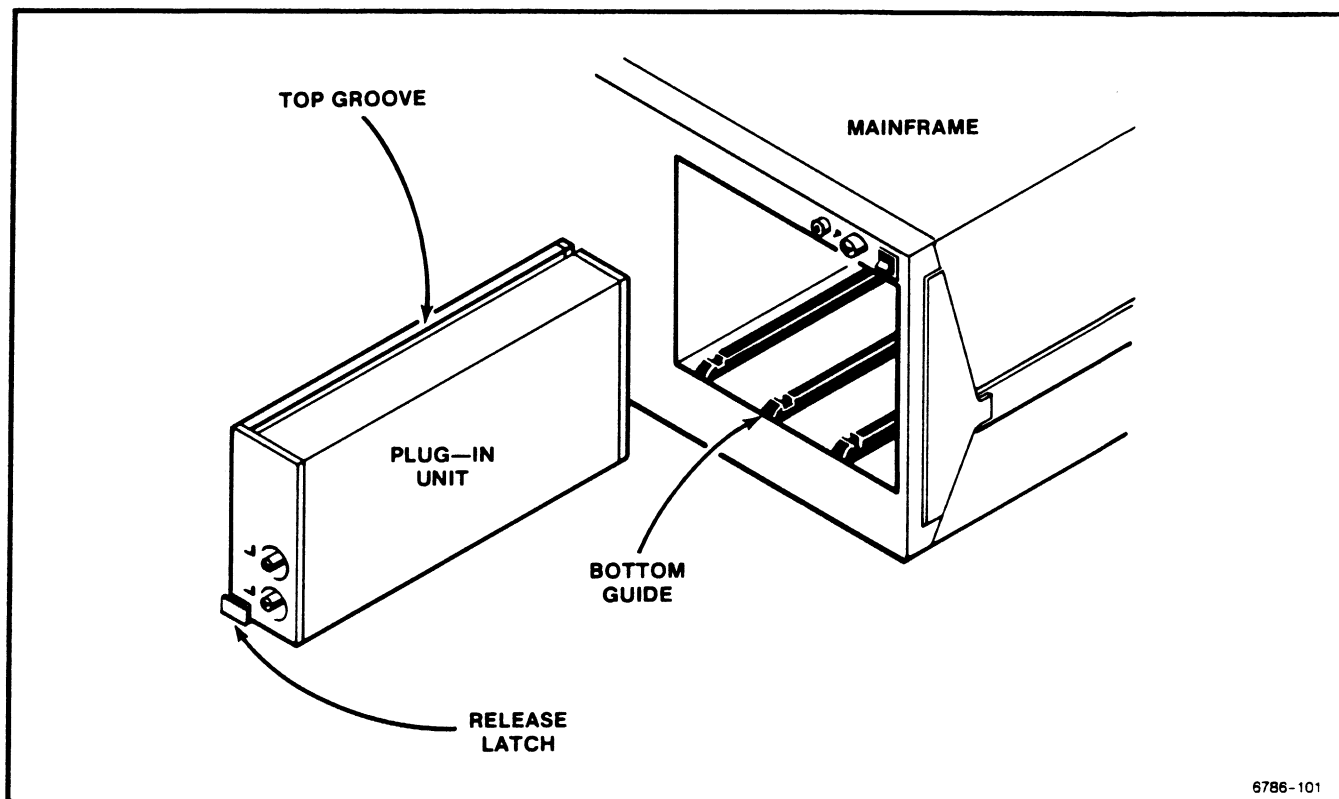

Figure 1-1. Installing a plug-in in a mainframe oscilloscope.
| Figure 1-1 | Installing a plug-in in a mainframe oscilloscope | 1-3 |
2. Pull the release latch (refer to Fig. 1-1) to disengage the unit from the mainframe.